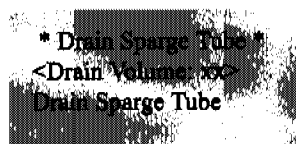

Figure 4.8. Drain Sparge Tube menu
1. Select **Drain Sparge Tube**. Press [Enter]. The Drain Sparge Tube menu appears (Figure 4.8).